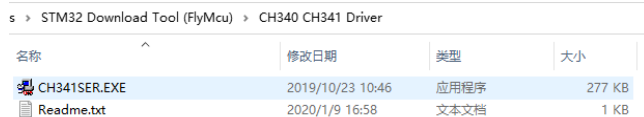

Figure 8 Double Click “CH341SER.EXE”
Step 1: Connect the USB communication port wire, double click the file “CH341SER.EXE” to install, as shown in **Figure 8**.